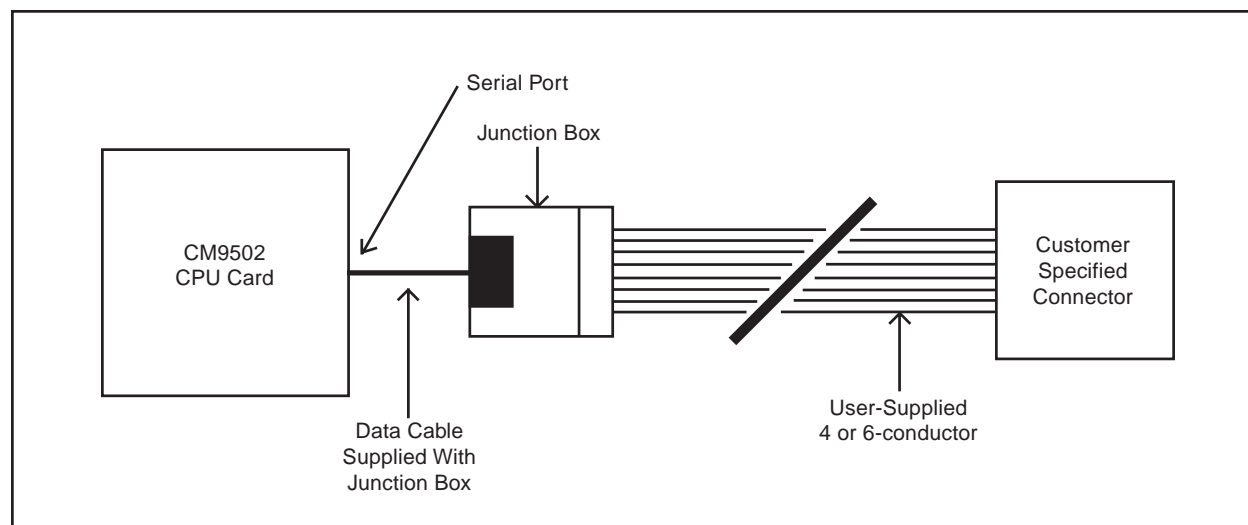
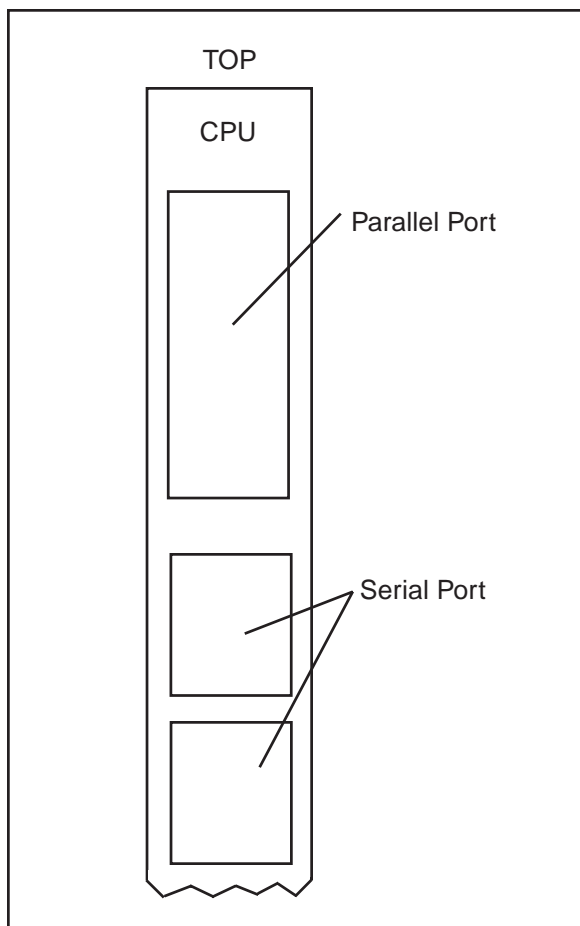
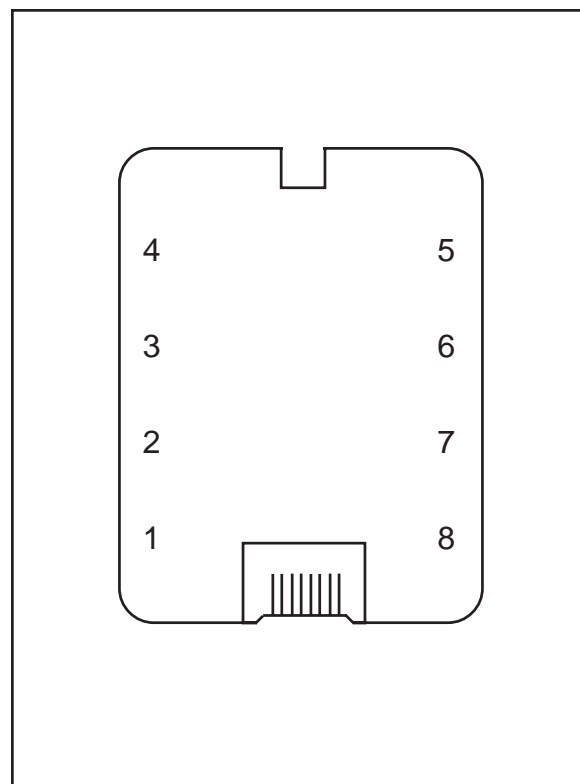

Figure 36. Cable Connection of CM9502 ASCII Port
Figure 37. Parallel and Serial Port Location
Figure 38. J-Box (Top View)
To facilitate connection of the CM9502 ASCII serial port to the end user's equipment, a RJ-45 to multiwire junction box and interface cable are provided with the CM9502 card cage (see Figure 36). One end of the interface cable connects to either of the RJ-45 sockets on the CPU card labeled, "Serial Port" (see Figure 37). The serial port is provided with two (2) RJ-45 8-pin modular female connectors (looped together) that are located directly below the printer interface connector on the CPU card. The opposite end of the cable then connects to the RJ-45 socket of the junction box. Removing the cover of the junction box reveals eight (8) screw down terminals for connection to the end user's equipment (see Figures 38 and 39). If the end user's ASCII device uses an RS-422 port for communication, only four wires need be used to connect the ASCII device to the junction box. If the ASCII device uses an RS-232 port, refer to Section 6.2.2.2.